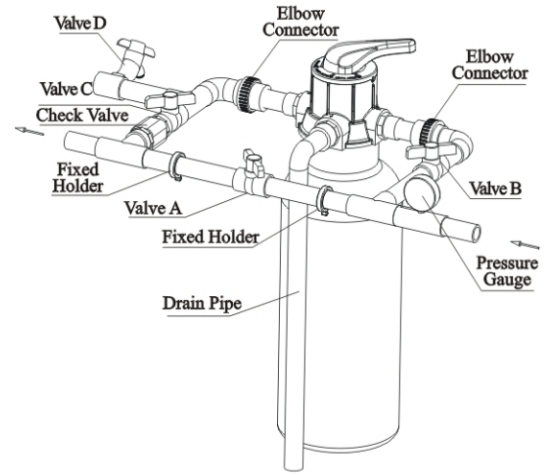

Figure 1-2
- 1) Close the inlet valve B & C, and open the bypass valve A. After cleaning the impurities in the pipe, close the bypass valve A (As figure 1-2 shows, the same as below).